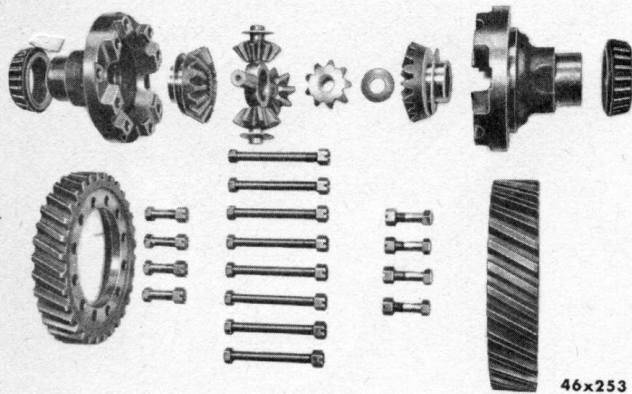

Fig. 86—Differential and Spur Gears (Disassembled)
- (1) Join fast and slow speed spur gears to their respective case halves with bolts and tighten nuts to the correct torque. See Figure 86.